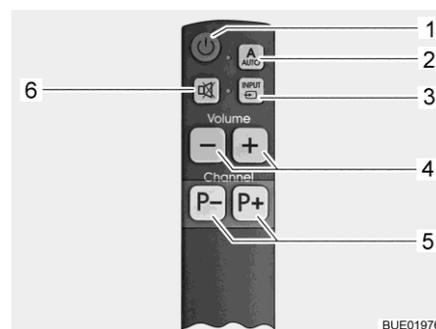

Fig. 45 Simplified remote control (optional)
- Press the AUTO button (Fig. 44,2 or Fig. 45,2) for 1 second. Thus, the television and the advance unit are switched on.
- Press the programme selection buttons (Fig. 44,4 or Fig. 45,5) until the desired TV programme has been selected.
- Press the INPUT button (Fig. 44,3 or Fig. 45,3) repeatedly until the desired signal source has been selected.
- To return to the satellite channels display, press the INPUT button (Fig. 44,3 or Fig. 45,3) repeatedly until the signal source DVB-S2 has been selected.
- Press the AUTO button (Fig. 44,2 or Fig. 45,2).
- Press the Television on/off button (Fig. 44,1 or Fig. 45,1). The advance unit is not switched on, the antenna remains in parking position.
- Press the INPUT button (Fig. 44,3 or Fig. 45,3) repeatedly until the desired signal source (e.g. DVD) has been selected.
- Press the Television on/off button (Fig. 44,1 or Fig. 45,1) to switch the television off.